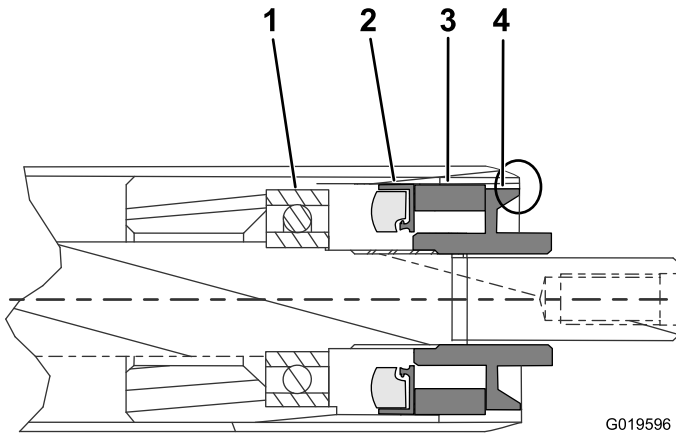

**Figure 3**
- Remove the nuts from the end of the roller and insert the 12.7 mm (1/2 inch) spacers (Figure 3).